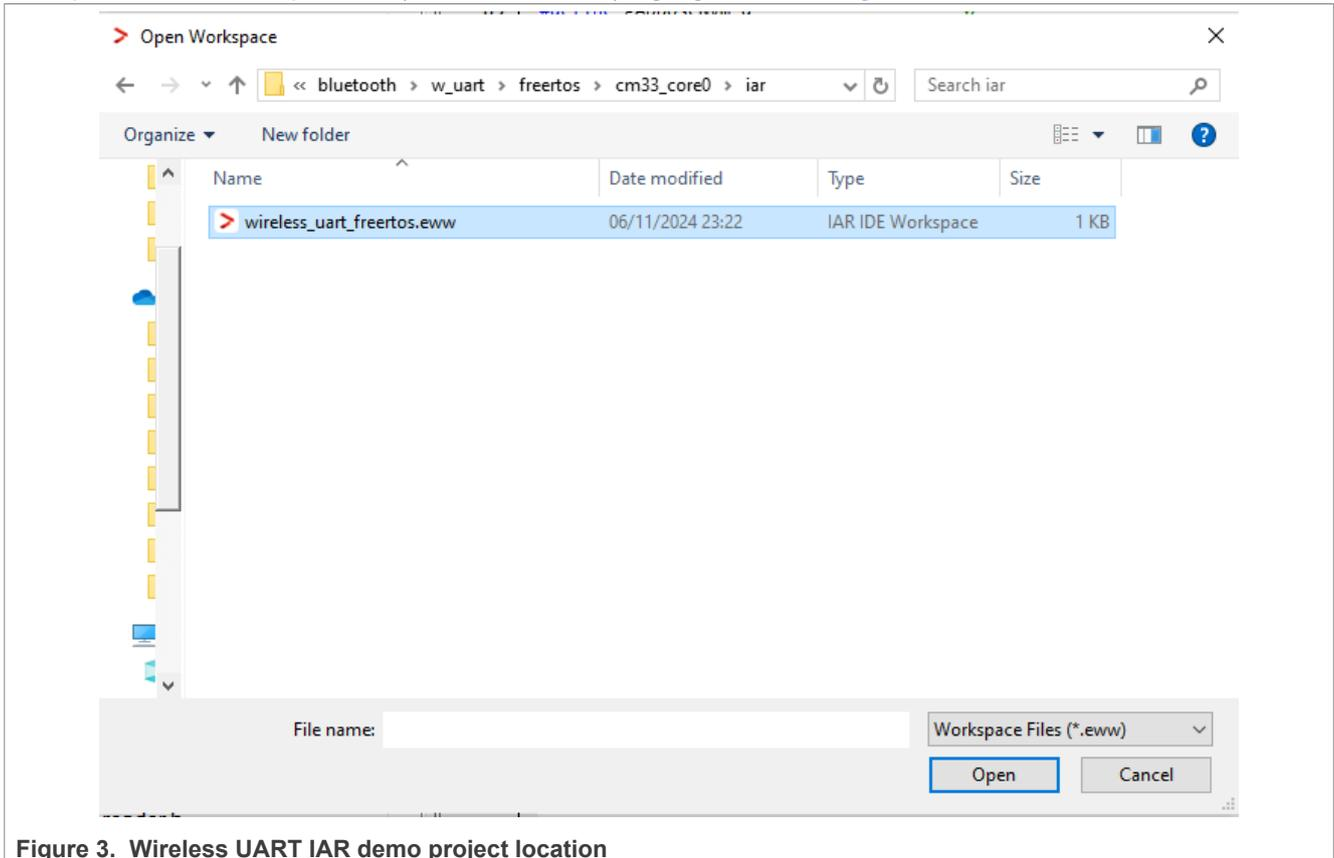

Figure 3. Wireless UART IAR demo project location
2. Open the IAR workspace file (*.eww file format) highlighted file in Figure 3.